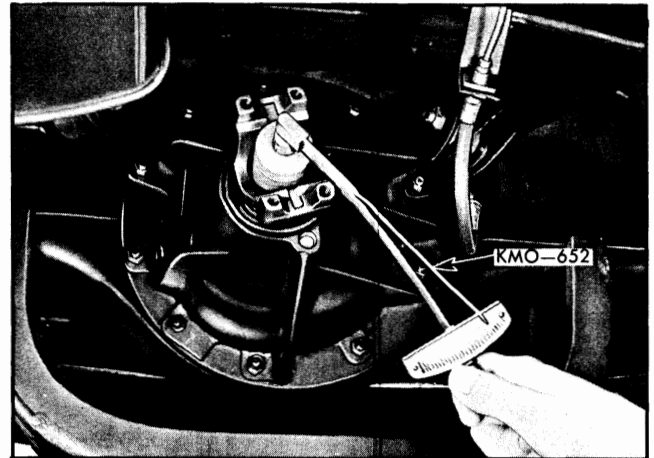

Fig. 4-8 Measuring Pinion Bearing Preload
3. Using pound inch torque wrench KMO-652 with adapter KMO-653 and socket placed over drive pinion nut, turn pinion two or three revolutions to ensure free movement, and then take a torque reading while rotating pinion to measure bearing preload (Fig. 4-8). Record reading.
5. Using pound inch torque wrench KMO-652 with adapter KMO-653 and socket placed over drive pinion nut, turn pinion two or three revolutions to ensure free movement, and then take a torque reading while rotating pinion to measure bearing preload (Fig. 4-8). Record reading.